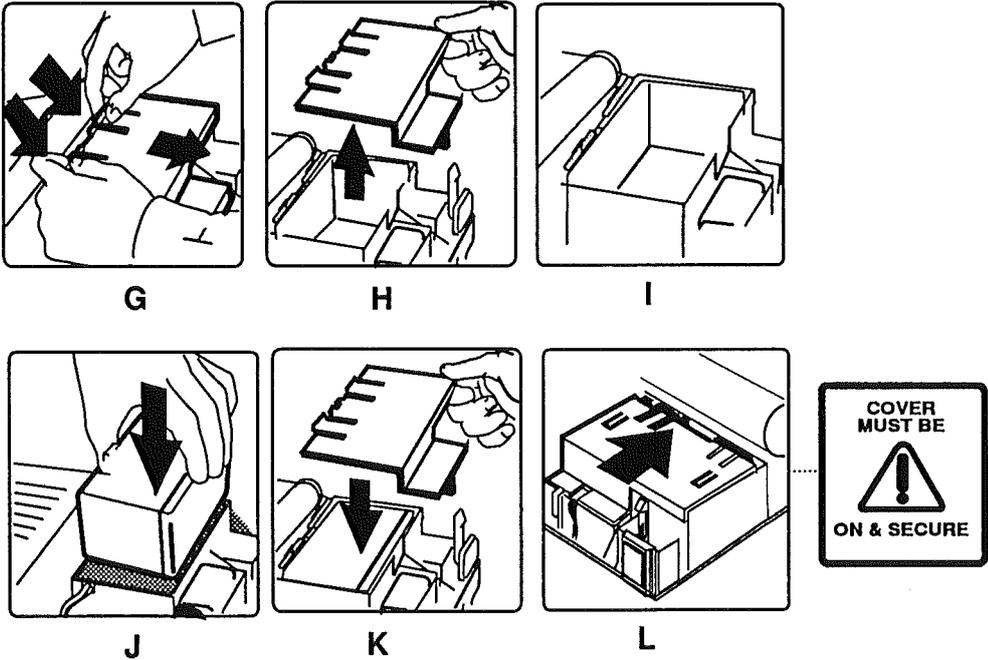

FIGURE 3
2. **Figure 3-A.** Press down on the two plastic tabs at the front of the battery cover and slide the battery cover toward the rear of the computer.
3. **Figure 3-B.** Lift off the battery cover.
4. **Figure 3-C.** Lift out the main battery.
5. **Figures 3-D, 3-E, and 3-F.** **If you are doing anything other than replacing the main battery,** replace the battery cover by placing the battery cover on the battery compartment and sliding it evenly toward the front of the computer until it snaps in place.
1. **Figures 3-G and 3-H.** If the battery cover is on, remove it.
2. **Figures 3-I and 3-J.** Place the battery into the battery compartment. The tab on the battery should be facing toward the front of the computer.
3. **Figures 3-K and 3-L.** Place the battery cover on the battery compartment and slide it evenly toward the front of the computer until it snaps in place.